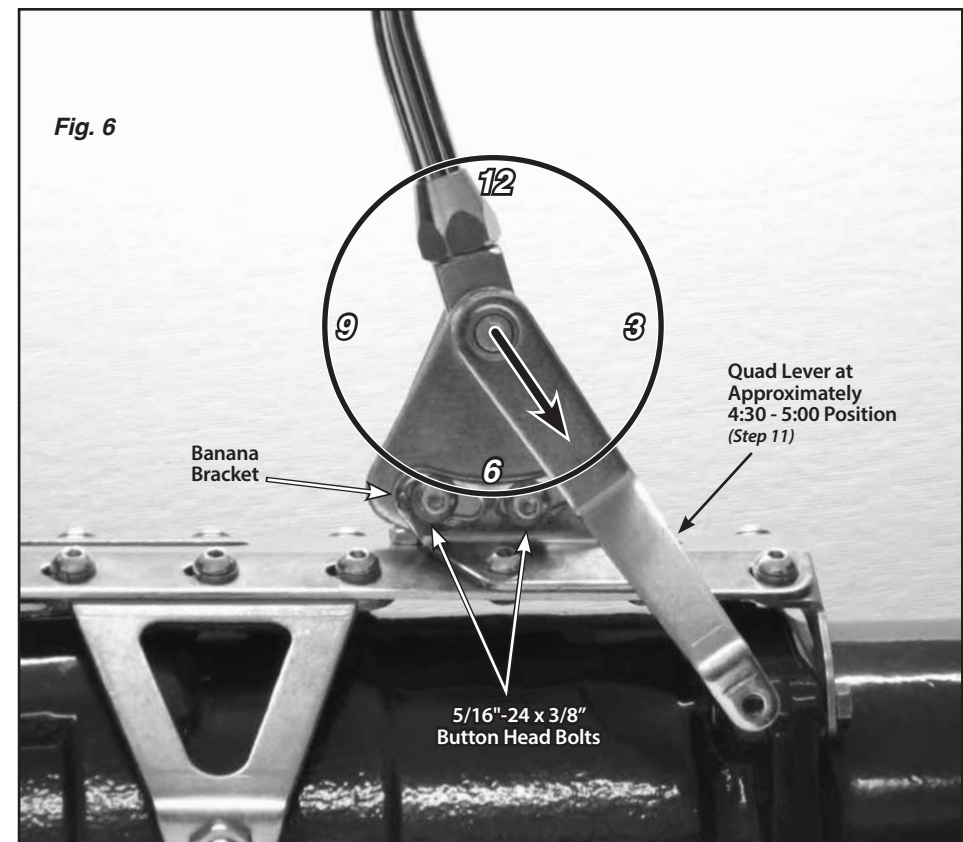

Fig. 6
**Step 10:** Make sure the two 5/16"-24 x 3/8" button head bolts that attach the left side banana bracket to the shifter assembly (in the curved, slotted holes) are tight. Before tightening the shifter assembly down to the main plate, move the shifter lever through all the gear positions. Make sure that the shifter lever and knob will not come in contact with the dash or the seat. The shifter assembly can be tilted forward or backward if needed by loosening the 5/16"-24 x 3/8" button head bolts in the curved, slotted holes in the left side banana bracket. **Fig. 6**
**Step 11:** Put the shifter lever into the Park position and check the position of the quad lever. It will need to be pointing to approximately the 4:30 - 5:00 position. If it is not, loosen the set screw in the top of the quad lever with a 1/8" Allen wrench and slide the quad lever off of the shaft. Reposition it on the shaft at approximately the 4:30 - 5:00 position, and retighten the set screw. **Fig. 6**